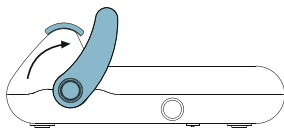

Fig. 4
- 5 Lift up the handle (Fig. 4) and take the package.